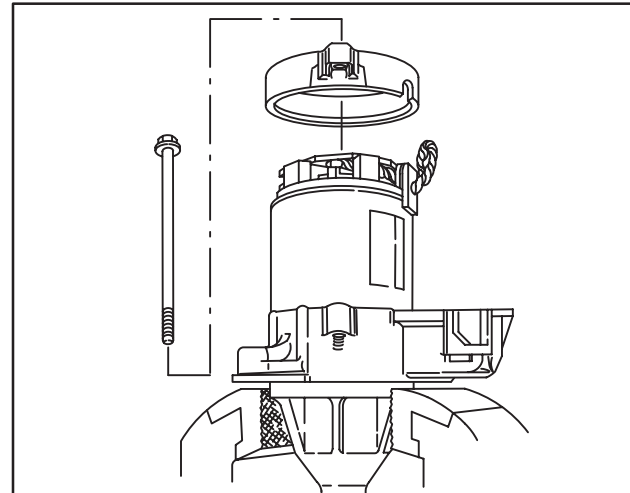

Fig. 60 – Removing End Cap
2. Place drive housing in a vise as shown in Fig. 60.